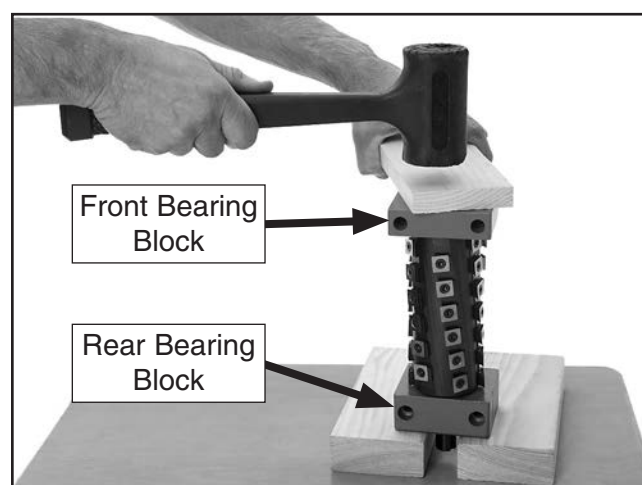

Figure 7. Seating rear bearing block onto helical cutterhead.
16. Stand cutterhead upright between two 8" 2x4 blocks, then use a piece of scrap wood and a dead blow hammer to seat cutterhead into bearing blocks, as shown in **Figure 7**.